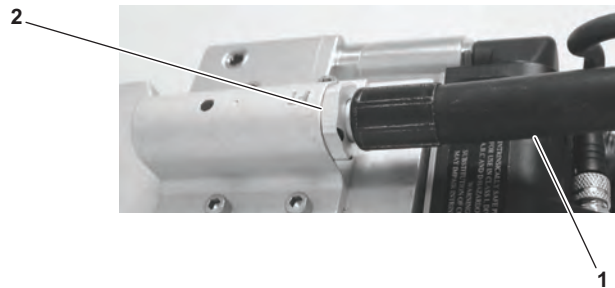

Figure 6-43. Low-Pressure Hose
- (1) Bleed the system IAW paragraph 6.5.1.
- (2) Remove the cylinder assembly IAW paragraph 2.3.2.1 step a.
- (3) Remove the RIC/UAC assembly IAW paragraph 6.8.4 step b.
- (4) Using a 5/8 in. open-end wrench, remove the low-pressure hose (figure 6-43, item 1) by rotating the low-pressure hose coupling (figure 6-43, item 2) fully counterclockwise.
- (5) Remove the pressure reducer and the Visualert mounting block IAW paragraph 6.8.1 step b.
- (3) Using a 5/8 in. open end wrench, install the low-pressure hose (figure 6-43, item 1) by rotating the low pressure hose coupling (figure 6-43, item 2) fully clockwise.
- (4) Install the RIC/UAC assembly IAW paragraph 6.8.4 step c.
- (5) Install the cylinder assembly IAW paragraph 2.3.2.1 step b.
- (6) Perform a leak check IAW paragraph 6.5.2.